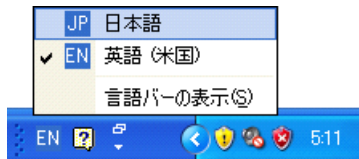

Figure 9-11 Switching the input language to Japanese from the language bar
4. Once TomoView is started, change the input language to Japanese from the language bar. See Figure 9-11 on page 444.